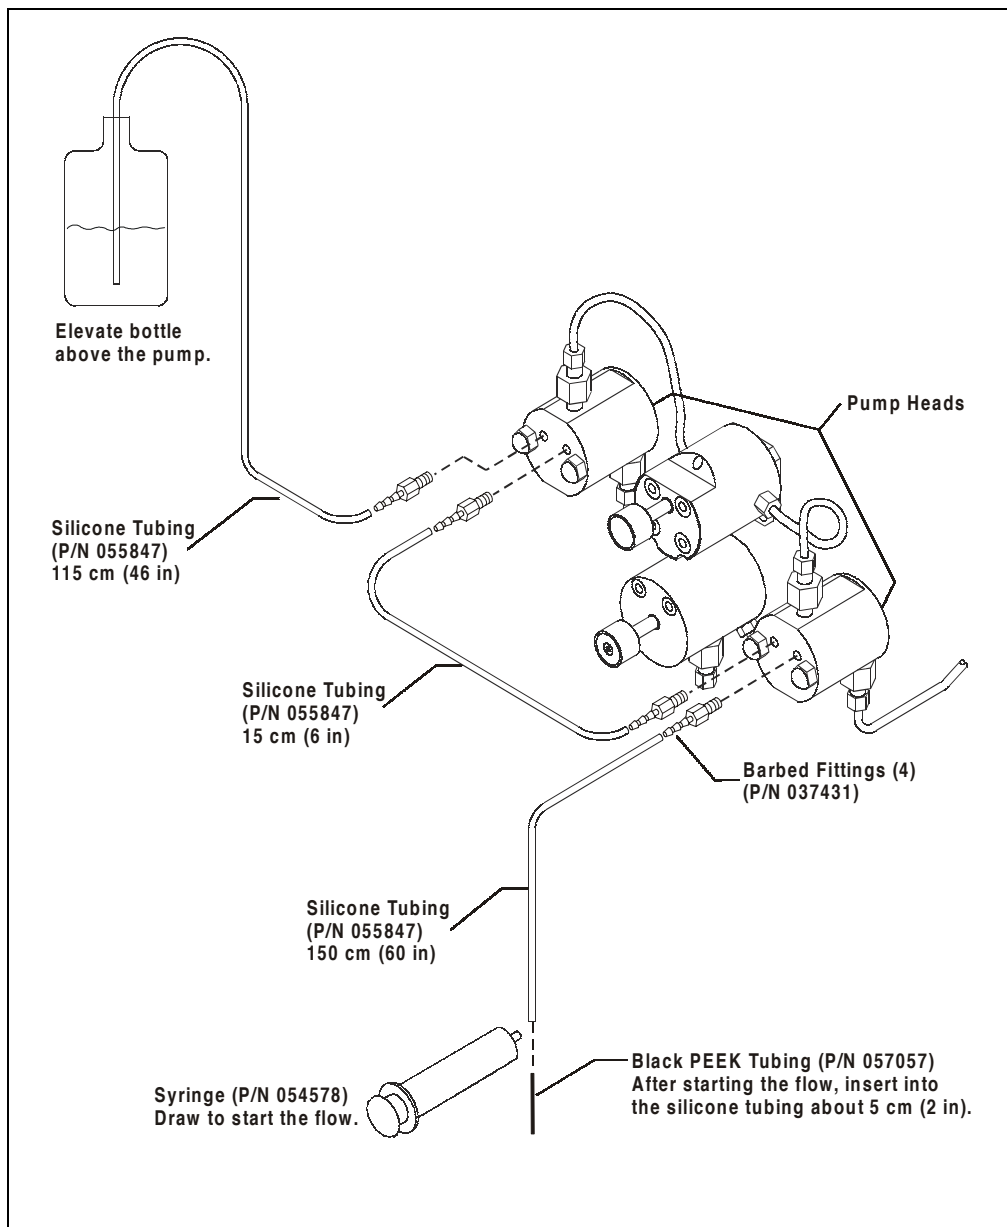

Figure B-4. Piston Seal Wash Connections
3. Install barbed fittings (P/N 037431) on the pump heads as shown in Figure B-4 and push the pieces of clear 1.5-mm (0.06-in) ID tubing onto the barbed fittings.